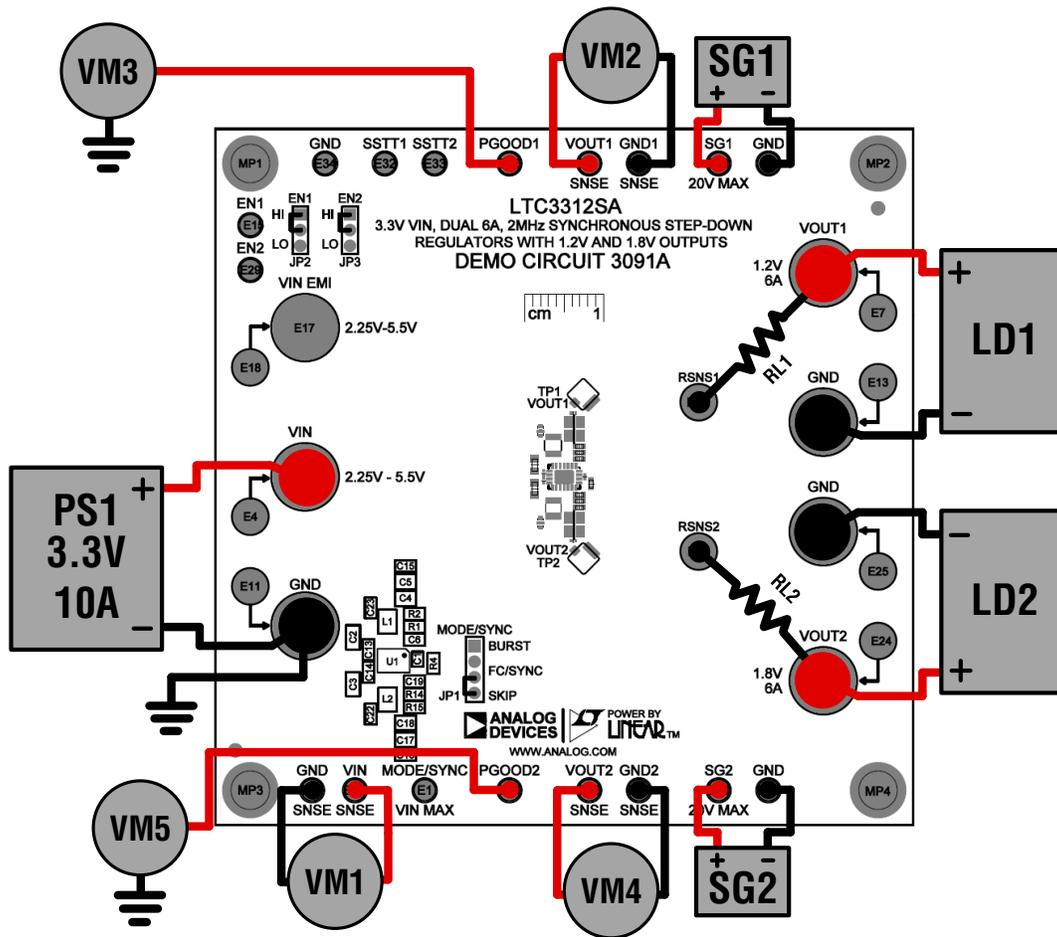

Figure 2. Test Setup for DC3091A Demo Board
Refer to Figure 2 for the proper measurement equipment setup and follow the procedure below:
1. Connect PS1, LD1, VM1, VM2 and VM3 as shown in Figure 2. If the input EMI filter is desired, connect the input power supply to VIN EMI and GND.
8. To test the transient response with a base load, add the desired resistor to produce a minimum load between VOUT and RSNS1 turrets (RL1 shown on Figure 2). Note that the total load resistance will be RL1 plus R11 (100mΩ). Adjust a signal generator with a 10ms period, 10% duty cycle and an amplitude from 1V to 2V to start.